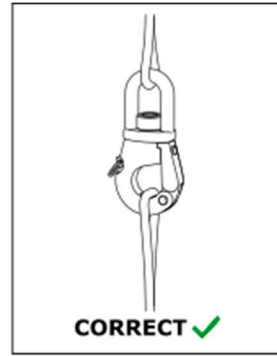

Figure 1a
- Load must be centered on the saddle of the hook. (Figure 1a)